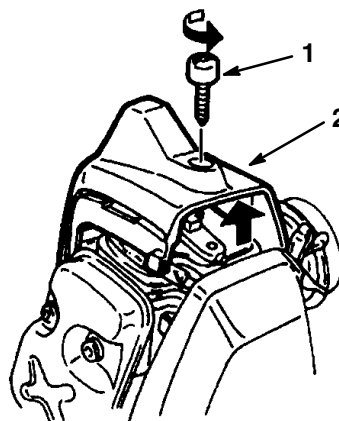

Figure 29
2. Loosen the cylinder cover screw and lift off the cylinder cover (Fig. 29).
9. Reinstall the cylinder and muffler covers (Figs. 29 and 30).
2. Loosen the cylinder cover screw and remove the cylinder cover (Fig. 29).